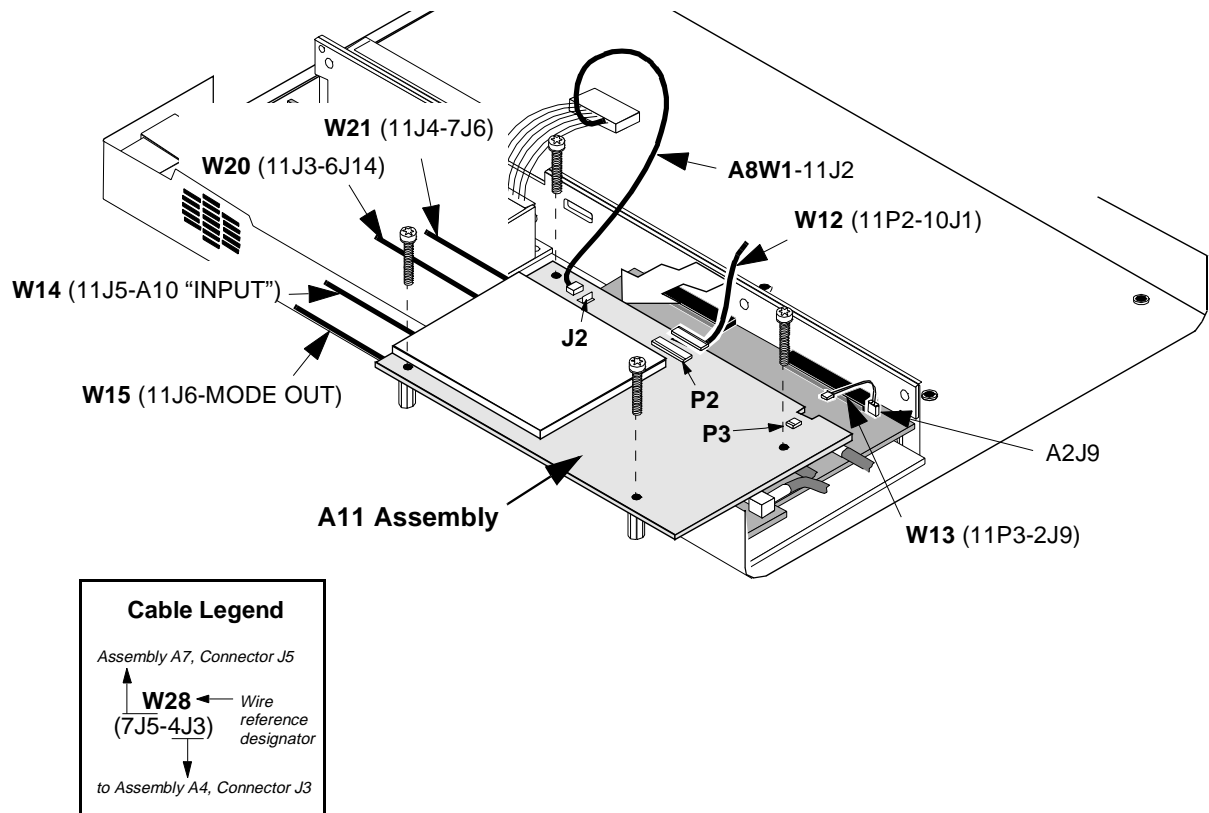

Figure 32 Removing the A11 Assembly
3. Remove the four machine screws securing the A11 assembly, see figure 32.